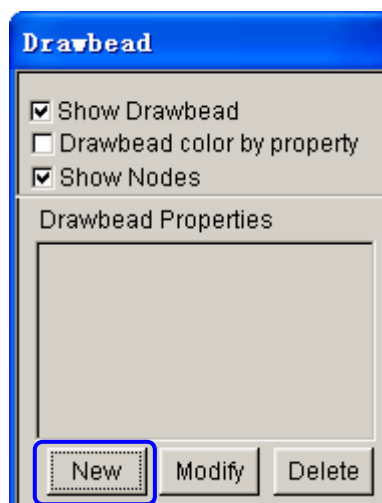

Figure 7.27 Drawbead dialog box
2. Then, click **New** button to create a new **Drawbead property**. See Figure 7.27.